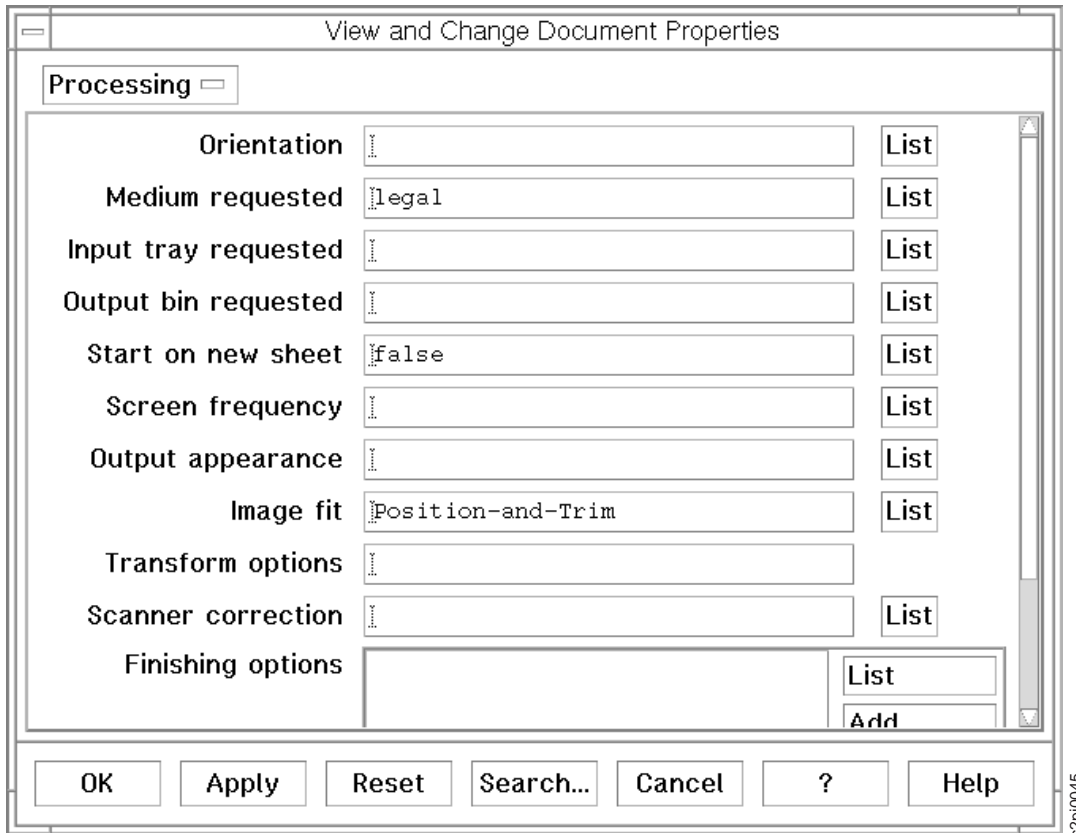

Figure 29. View and Change Document Properties Window 2
- From the **Summary** drop-down menu **1**, select **Processing**. You see the View and Change Document Properties window 2 (Figure 29 on page 31).
Finishing requirements are listed in the "View and Change Document Properties window 2" (Figure 29) under "Finishing options". For more information see Destination Queue Window 1 (Figure 25 on page 27).